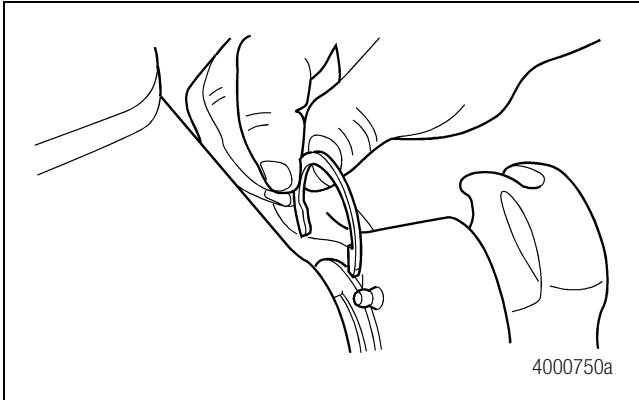

Figure 4.23
6. Remove the retaining ring from the camshaft at the back of the spider assembly. Figure 4.23.